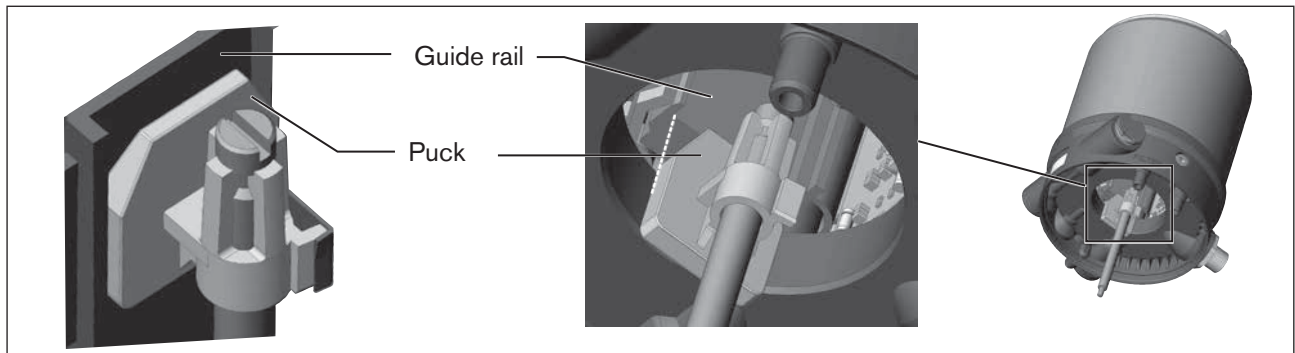

Figure 9: Aligning the puck
1. the puck can be inserted into the guide rail of the control head (see "Figure 9") and